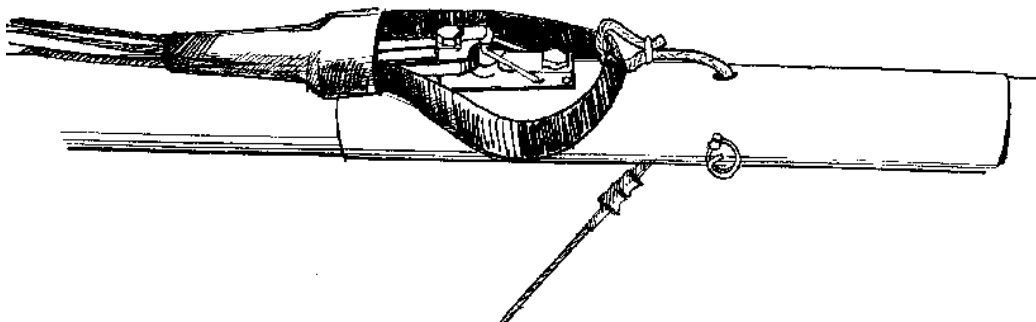

Fig. 13
2.2.8. Check the rear wires/keel tube junction. Assembly must be connected with the pin and the safety ring (Fig. 13).